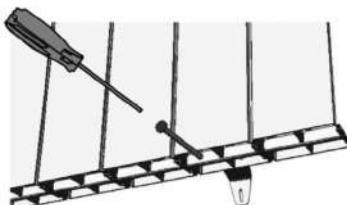

Figure 11
7. Insert the two plugs and secure with the two screws (B) to completely secure the heater to the wall (Figure 11).